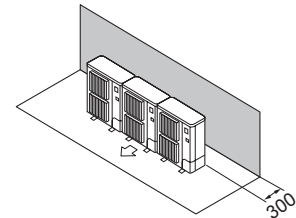

Fig. 2-9
- ① Obstacles at rear (Fig. 2-9)